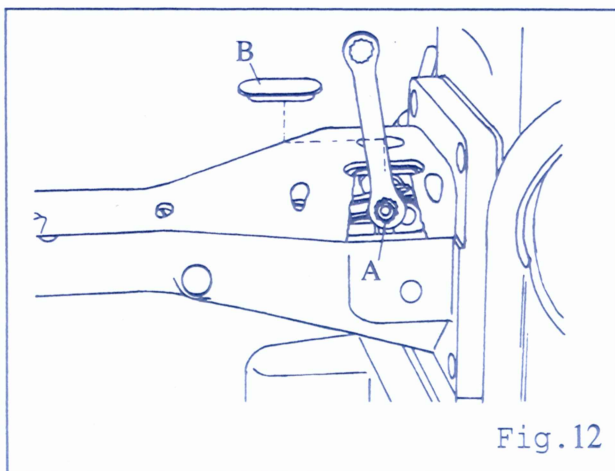

Fig.12
2. Please take-out Rubber Plug (B) and use 10mm ring spanner to adjust the stitch length on the arm. Loosen nut (A), move the indicator downward to decrease the stitch length, move the indicator upward to increase the stitch length. (Fig 12)